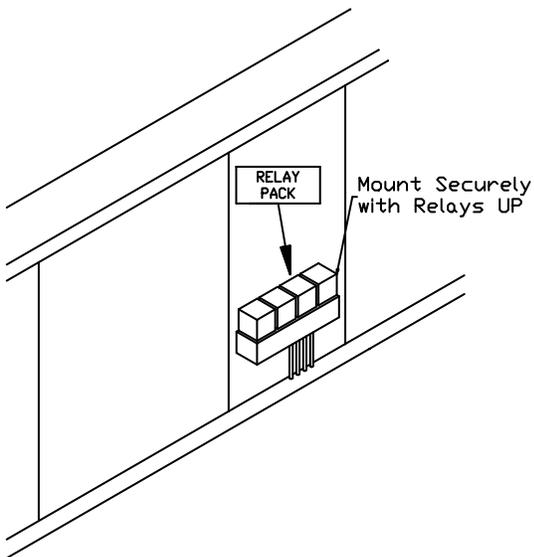

Figure 24. Relay Mounting. G10152
32. Locate vehicle option connector. Align the connector so that the arrow on the Vehicle Option Connector is positioned to match the vehicle it is installed on. This is illustrated in Figure 24.